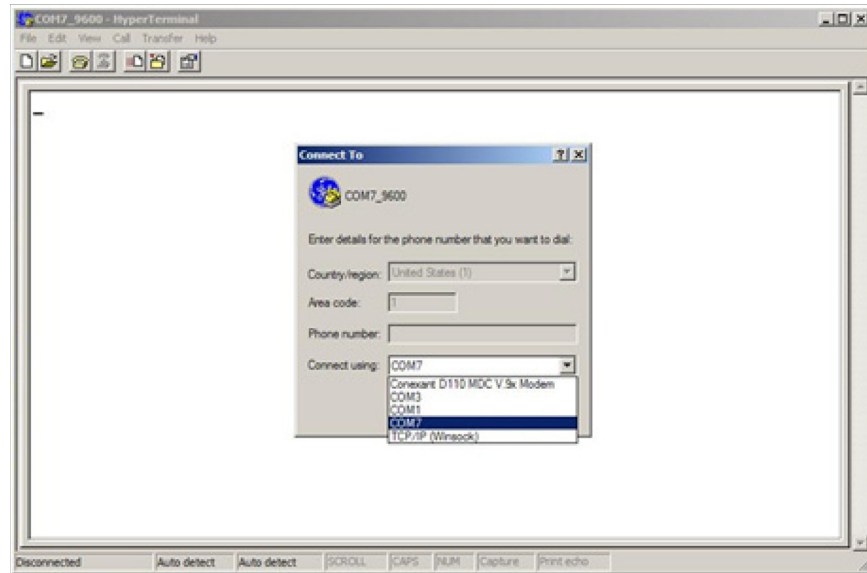

Figure 20-8. COM Port Selection
5. Select the COM port identical to the one that shows up on the device manager as shown in Figure 20-8.